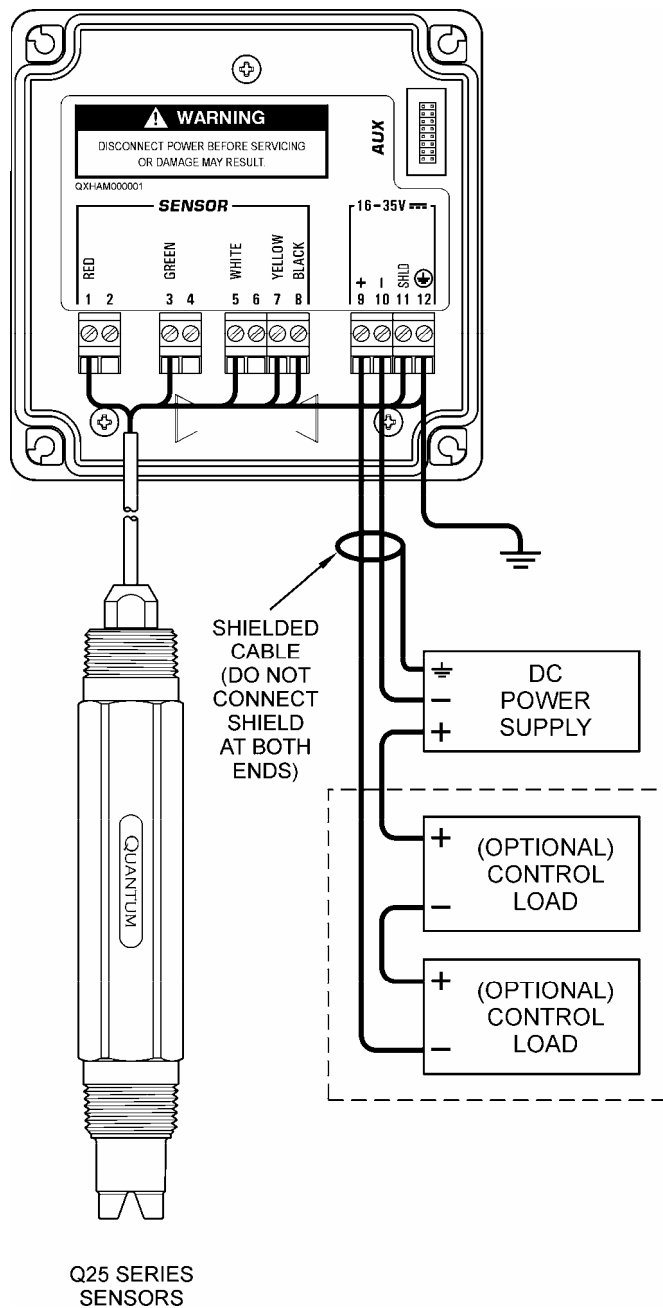

Figure 3-1 Loop-Power Connection, Q45P Transmitter
1. Use wiring practices that conform to all national, state and local electrical codes. For proper safety as well as stable measuring performance, it is important that the earth ground connection be made to a solid ground point from terminal 12 (Figure 3-1). The AC power supply contains a single 100mA (115V) or 50mA (230V) slo-blo fuse. The fuse **F1** is located adjacent to **TB5** and is easily replaceable.
In the two-wire configuration, a separate DC power supply must be used to power the instrument. The exact connection of this power supply is dependent on the control system into which the instrument will connect. See Figure 3-1 for further details. Any twisted pair shielded cable can be used for connection of the instrument to the power supply. Route signal cable away from AC power lines, adjustable frequency drives, motors, or other noisy electrical signal lines. Do not run sensor or signal cables in conduit that contains AC power lines or motor leads.
Sensor connections are made in accordance with Figure 3-1. The sensor cable can be routed into the enclosure through one of cord-grips supplied with the unit. Routing sensor wiring through conduit is only recommended if a junction box is to be used. Some loose cable is needed near the installation point so that the sensor can be inserted and removed easily from the flowcell.